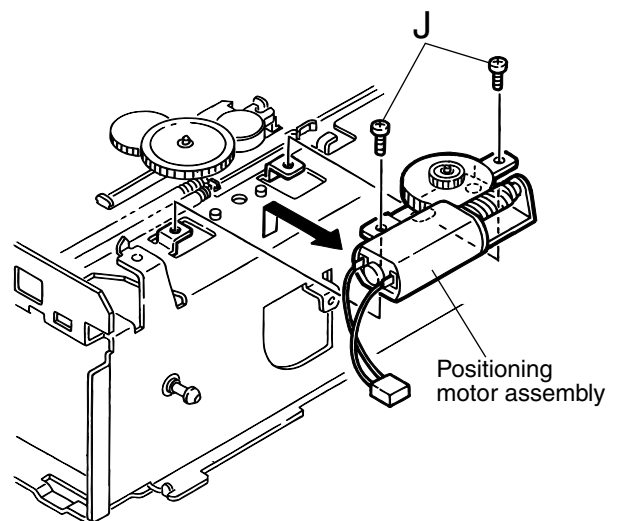

Fig. 14
■ Positioning motor assembly (See Fig.14)